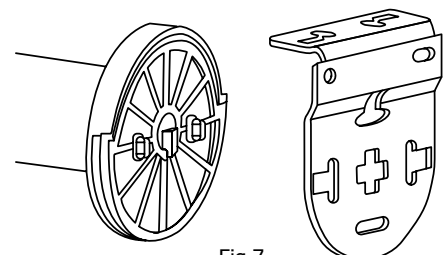

Fig.7
**3.** With the idle end in place offer the control end to the opposite bracket and secure the blind in place ensuring that the centre lug has dropped into the slot on the bracket. (Fig.7)